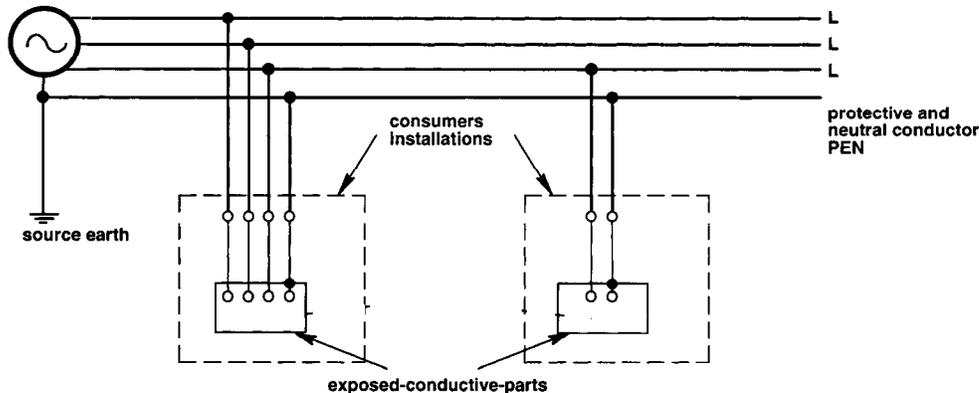

Figure A-1 – TN-C system
**TN-C system:** One pole of the supply system is connected to one or more electrodes buried in the ground. This pole is also connected to the neutral conductor of the distribution cables, which is also used to 'earth' exposed conductive parts of a load installation. (Figure A-1)